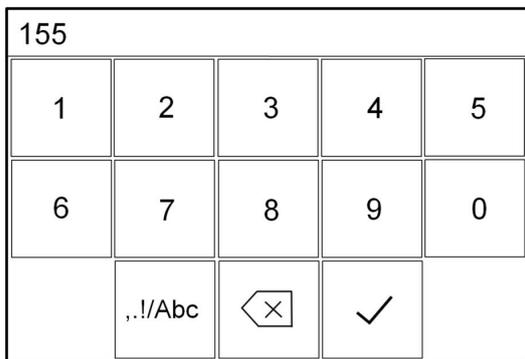
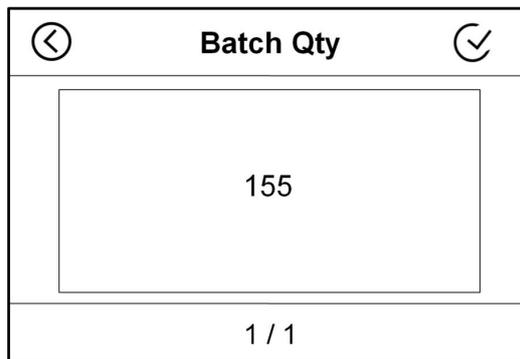

Figure 47
Figure 48
2) Touch click “0” to enter into Batch setting interface and input your desired value(for example 155), as Figure 47 shows, and click “✓” to save, as Figure 48 shows.